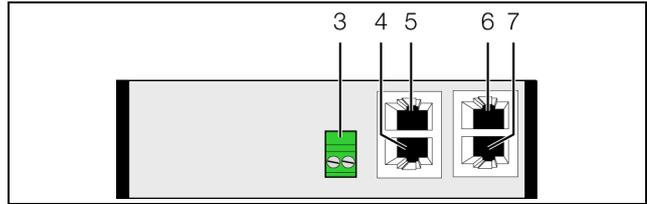

Fig. 9: Rear of the CAN bus DRC
- Connect the 24 V output (direct connection) of the power supply unit to the corresponding connection on the CAN bus unit (fig. 9, item 3).
The above designations "left" and "right" apply when the device is viewed from the rear (fig. 9).
- Connect the CMC-TC unit "RFID controller" (DK 7890.500) to the appropriate connection (fig. 9, item 4).
- Use a CAN bus connection cable to connect the CAN bus DRC to a CAN bus interface on the CMC III Processing Unit or the neighbouring component on the CAN bus (fig. 9, item 6).